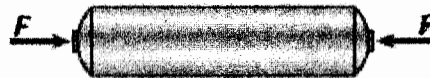

Fig.4 A thin-walled cylindrical pressure vessel of radius r is subjected simultaneously to internal gas pressure p and a compressive force F
5. A thin-walled cylindrical pressure vessel of radius r is subjected simultaneously to internal gas pressure p and a compressive force F acting at the ends (Fig. 4).